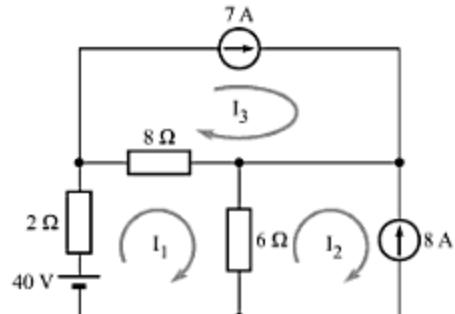

Fig. A-68
- A-26. Find the mesh currents in the circuit shown in Fig. A-68. [Ans. $I_1 = 3\text{ A}$, $I_2 = -8\text{ A}$, $I_3 = 7\text{ A}$]